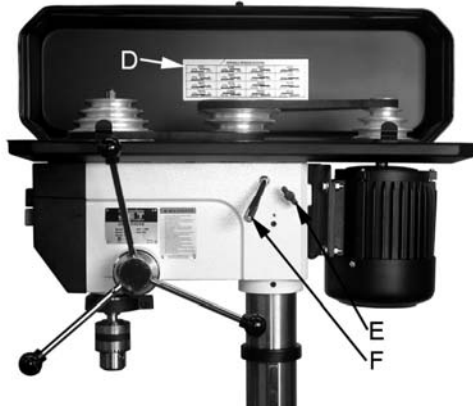

Figure 11
A spindle speed and pulley/belt arrangement chart is found on the inside of the pulley cover (D, Fig. 11). The chart is also shown in Figure 12. Refer to this chart whenever changing speeds.
2. Loosen two bar knobs (E, Fig. 11) found on each side of the head assembly.
3. Rotate the tension adjuster clockwise (F, Fig. 11) to bring the motor base as close to the head as possible.
5. Rotate the tension adjuster counterclockwise (F, Fig. 11) to tension the belts.
- Tighten two bar knobs (E, Fig. 11). Belts are properly tensioned when finger and thumb pressure midway between the two pulleys causes approximately $\frac{1}{2}$ " deflection.